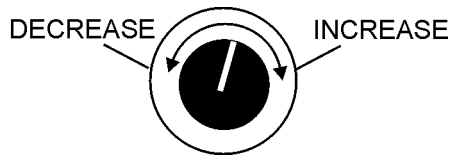

Figure 44. Voltage Adjust Control Knob
8. Use the voltage adjustment control knob (Figure 44) to increase or decrease the desired voltage.